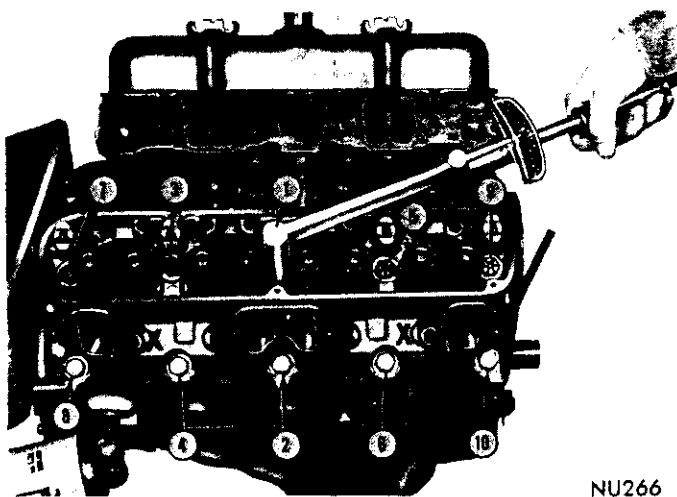
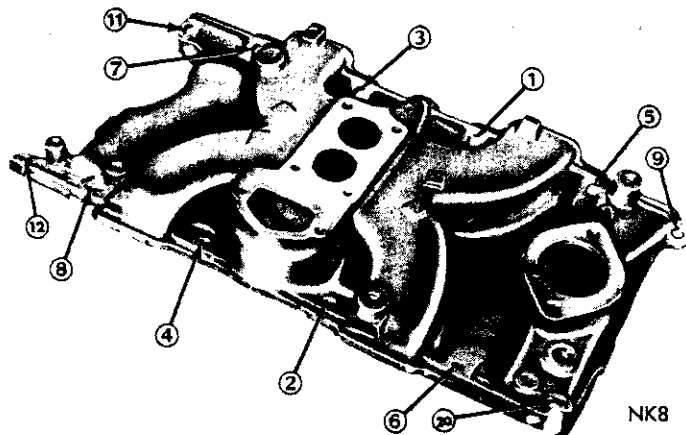

Fig. 8—Cylinder Head Tightening Sequence
Fig. 9—Intake Manifold Tightening Sequence
(3) Coat new gaskets lightly with number 1057794 Sealer and install on cylinder block.
(4) Remove cylinder heads from holding fixtures Tool C-3626 and place heads on engine.
(5) Install cylinder head bolts. Starting at top center, tighten all cylinder head bolts to 50 foot-pounds in sequence, as shown in Figure 8. Repeat procedure, retighten all cylinder head bolts to 85 foot-pounds on **318 Cubic Inch Engine** and 95 foot-pounds on **340 Cubic Inch Engine**.
(6) Inspect push rods and replace worn or bent rods.
(7) Install push rods, rocker arm and shaft assemblies with the "NOTCH" on the end of rocker shaft pointing to centerline of engine and toward front of engine on the left bank and to the rear on right bank, making sure to install the long stamped steel retainers in the number two and four positions, tighten to 210 inch-pounds.
(8) Coat intake manifold side gaskets lightly with number 1057794 sealer or equivalent and end gaskets with 1316241 sealer or equivalent. Install intake manifold gaskets with the bead down and end seals locked in the tangs of head gasket. Add a drop of sealer in the "V" notches at ends of side seals after installation.
(9) Position intake manifold on engine and install the twelve attaching cap screws "Finger Tight." Tighten cap screws one through four to 25 foot-pounds and tighten remaining cap screws to 25 foot-pounds, in the tightening sequence shown in Figure 9, then retighten cap screws one through four to 35 foot-pounds and follow by retightening the remaining cap screws to 35 foot-pounds in sequence shown.
(10) Install exhaust manifolds with new gaskets, the extended shield is used on left side, tighten to 30 foot-pounds.
(11) Adjust spark plugs to .035 inch gap and install the plugs tightening to 30 foot-pounds.
(12) Install coil wires, heat indicator sending unit